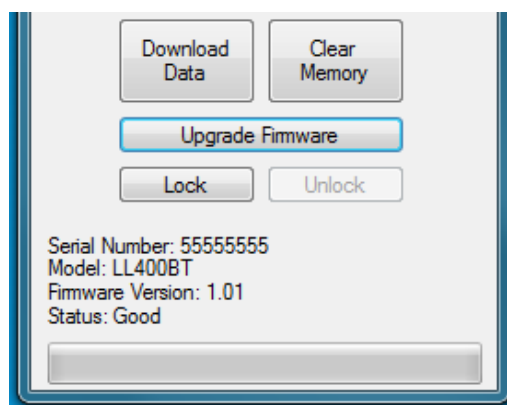
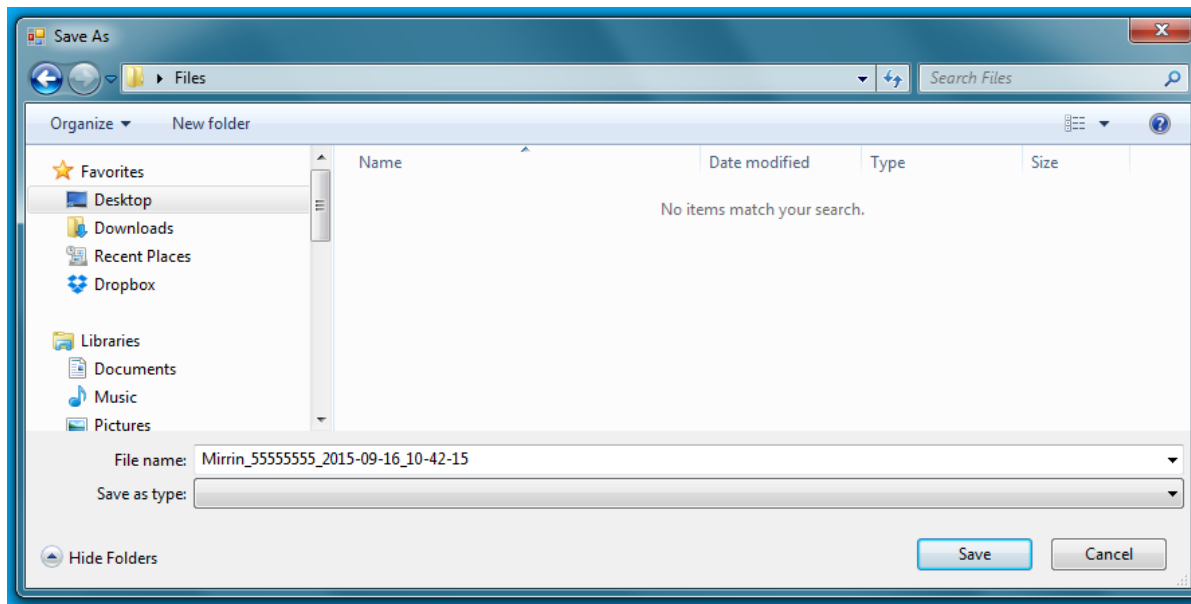

Figure 2.9.1
Figure 2.9.2
Step 1: Click the 'Download Data' button in the 'Status' window as shown in figure 2.9.1. A browsing window opens as shown in figure 2.9.2 that allows for downloading the logger file with a predefined file name in the format of 'Mirrin-Serial Number-Year-Month-Day_Hour-Minute-Second'.